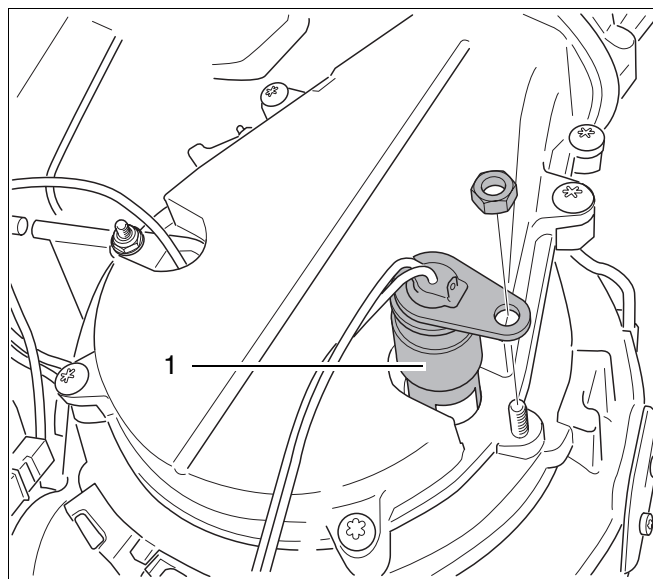

fig. 89 Replacing the hot surface ignitor
- Disconnect the hot surface ignitor (see fig. 89, item 1).